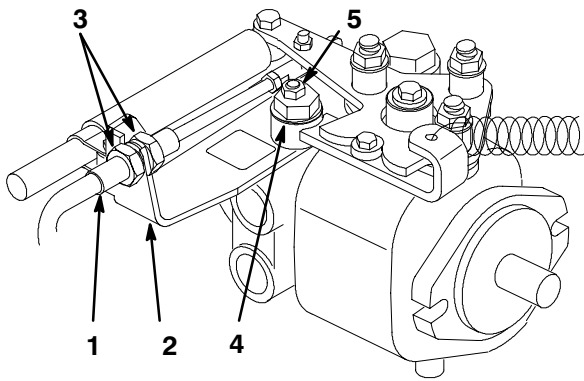

Figure 8
- A. Loosen both jam nuts securing the traction control cable to the cable support on the pump (Fig. 8). Make sure the jam nuts are loosened equally and sufficiently to allow adjustment.
- B. Loosen the nut securing the traction stud (eccentric) to the top of the pump (Fig. 8).
- D. Rotate the eccentric until creep does not occur in either direction. When the wheel stops rotating, tighten the nut locking the eccentric and adjustment (Fig. 8). Verify the adjustment with the throttle in the SLOW and FAST position.
- E. From each side of the cable support, tighten the locknuts **evenly**, securing the traction cable to the cable support (Fig. 8). Do not twist the cable.